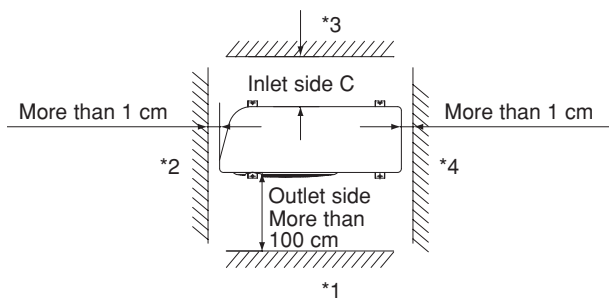
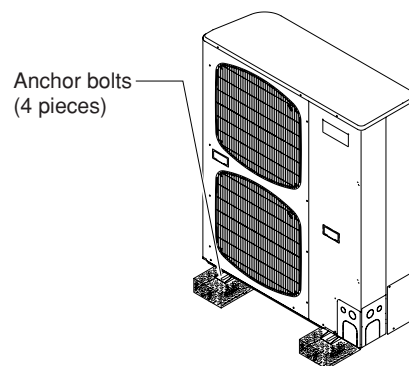

Fig. 2-7
Fig. 2-9
- allow enough room around the unit for air intake/exhaust and possible maintenance. (Fig. 2-7)
- Concerning inlet-side distance "C" (Fig. 2-7)
- If wall *1 is on the outlet side (Fig. 2-7), or if obstructions are present on all 3 sides *2, *3, and *4 (Fig. 2-7), then the minimum distance for "A" and "B" is 2 m (Fig. 2-9). Even if there is no wall on the outlet side, a minimum of 100 cm is required.
- provide a solid base (concrete block, 10 × 40 cm beams or equal), a minimum of 15 cm above ground level to reduce humidity and protect the unit against possible water damage and decreased service life. (Fig. 2-9)